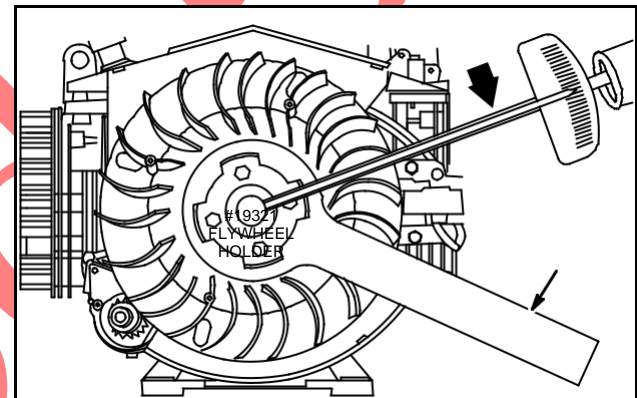

Fig. 14 – Torque Flywheel Nut – Twin II
3. Torque flywheel nut to 150 Ft. Lbs. (203 Nm), Fig. 14.